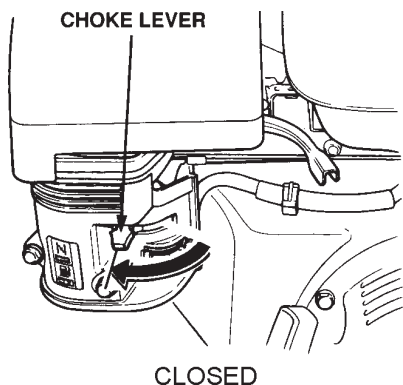

Figure 14. Choke Lever (Closed)
7. If the engine has started, slowly return the choke lever (Figure 14) to the “CLOSED” position. If the engine has not started repeat steps 1 through 6.